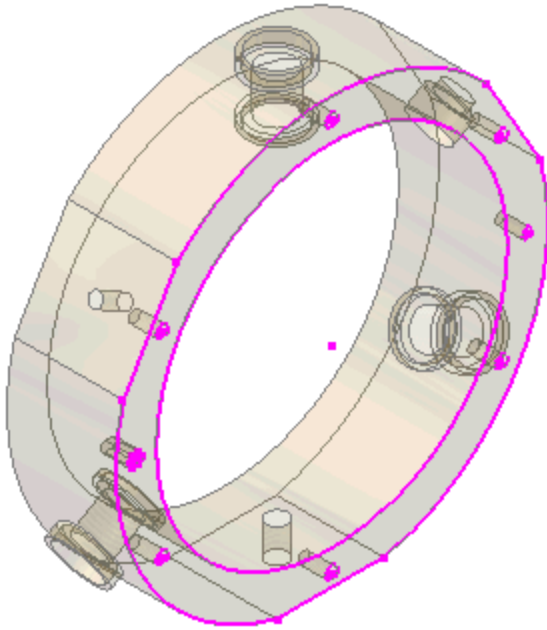

Figure 3: Projected loops from ring.
3. Move the cursor over the sketch face. Note that when the cursor is over an edge, only the edge is highlighted. When the cursor is over a face, all boundary and internal loops on that face are highlighted. Click on the ring face to project all loops to the current sketch (see Figure 3).